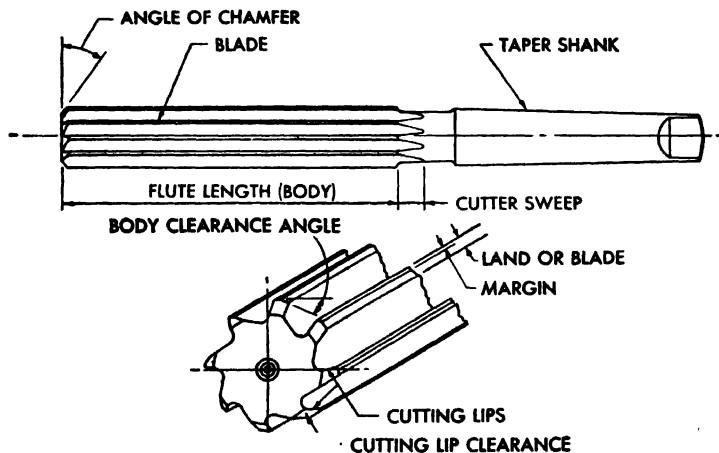

Fig. 9-1. Reamer terms. (Whitman & Barnes)
**Reamer Terms.** Most reamers are made up of three parts, *angle of chamfer*, *body*, and *shank* (Fig. 9-1).